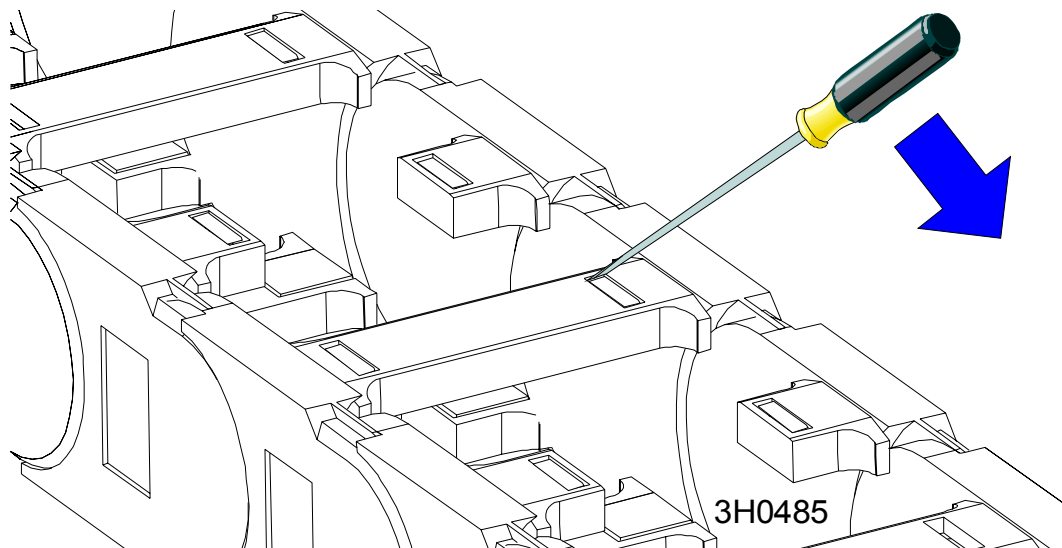

FIG. 3-11
**See Figure 3-11.** To disassemble the chain use a screwdriver to pry the connecting links apart. After removing the connecting links, the side plates can be disassembled by pulling them apart at an angle.